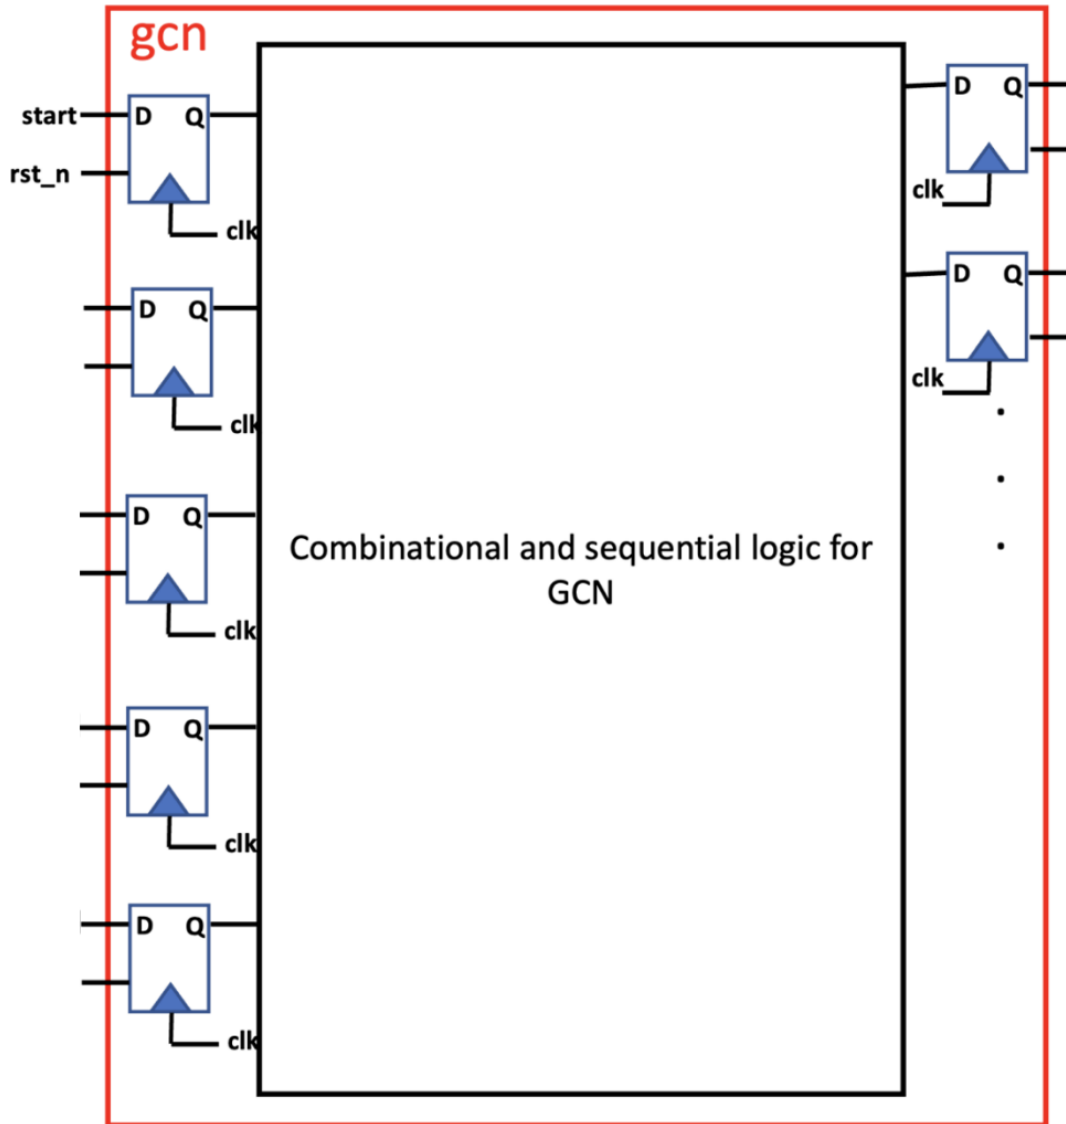

Figure 5. Illustration of the hardware module.
- As illustrated in the Fig. 5, all the inputs and outputs should be connected to input/output flip-flops at the boundary of the GCN module (no logic between the primary inputs/outputs and the boundary flip-flops). **Hint:** Make a parametrized DFF and use it for both inputs and outputs.